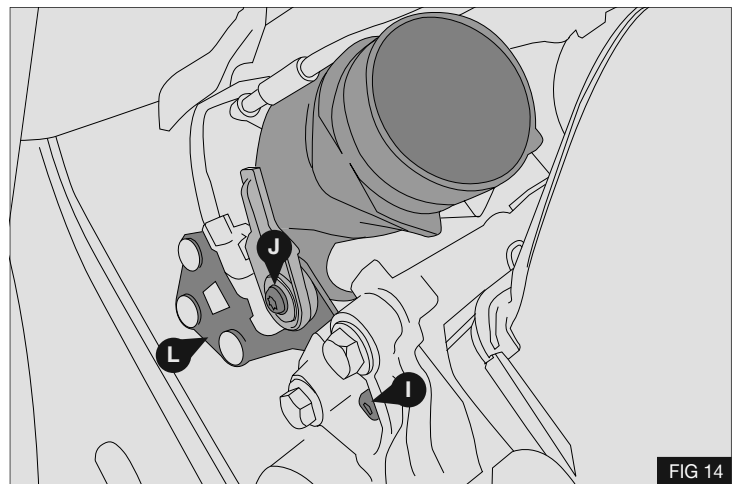

FIG 14
3. Re-fit the bracket (L) with the original fasteners (I), (J). Tighten hose-clip to turbo. Re-fit the timing cover (R) - Fig 14